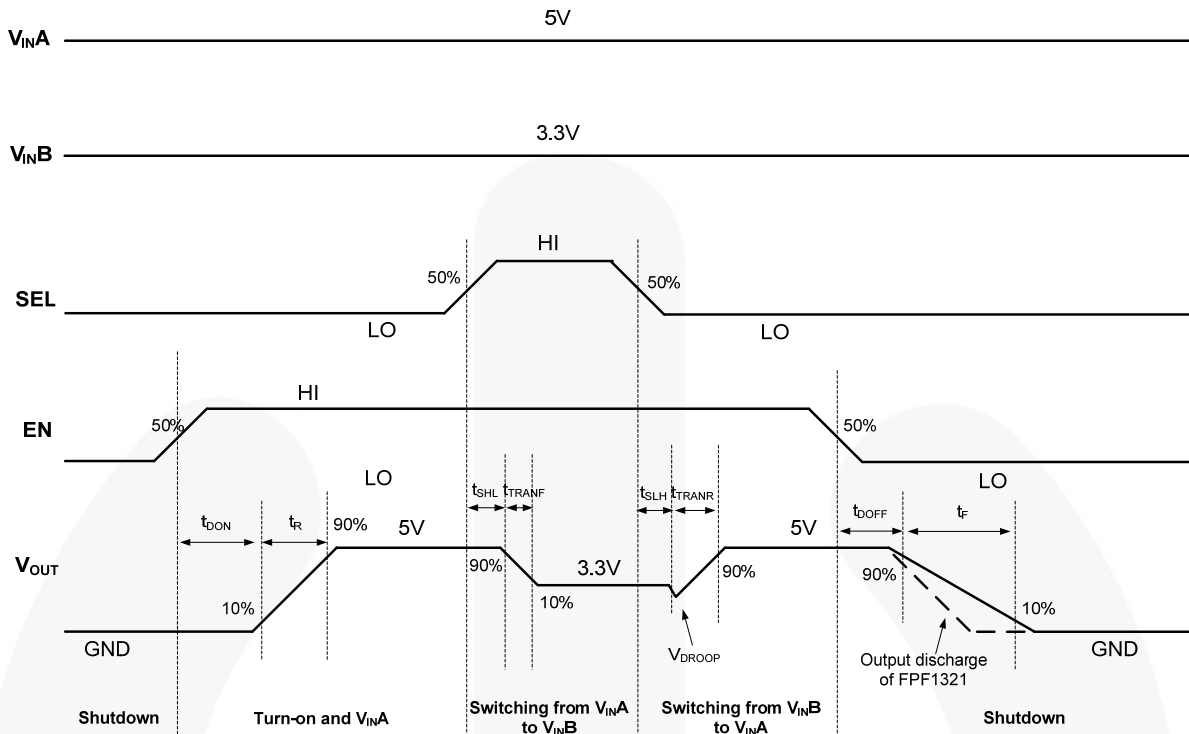

Figure 5. Dynamic Behavior Timing Diagram
- $t_{DON}/t_{DOFF}/t_R/t_F/t_{TRANR}/t_{TRANF}/t_{SLH}/t_{SHL}$  are defined in Figure 5.